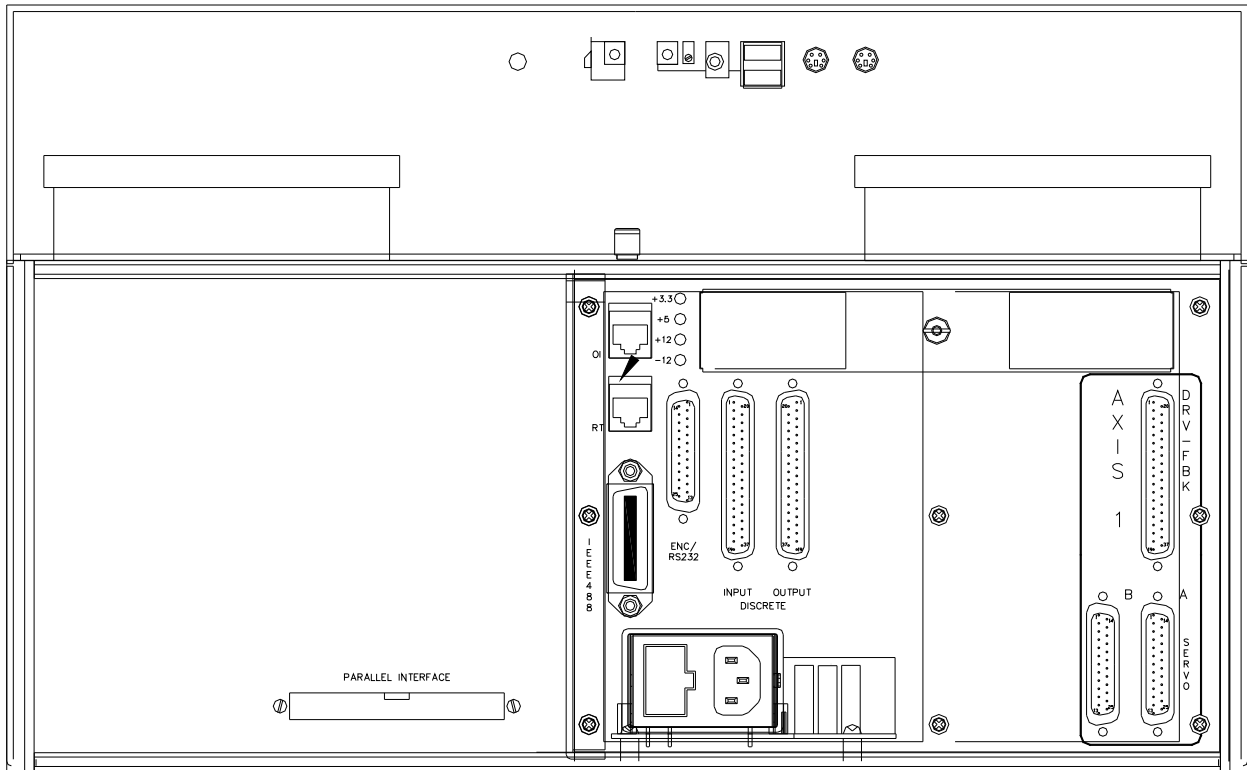

Figure 7-2 Acutrol3000 Rear Panel Showing Parallel Interface
- **Rear Panel.** A modified rear panel is supplied for customer access to the fiber optic connections. The panel is mounted in place of the existing blank panel. See Figure 7-2.